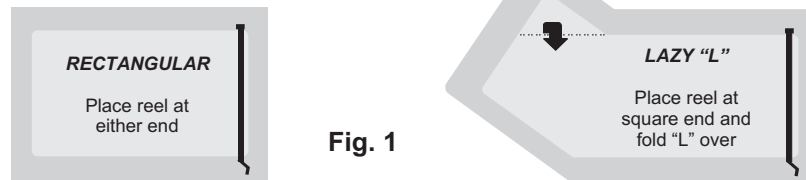

Fig. 1
A. The end of the pool is the only location for the Low Profile (see Fig. 1).